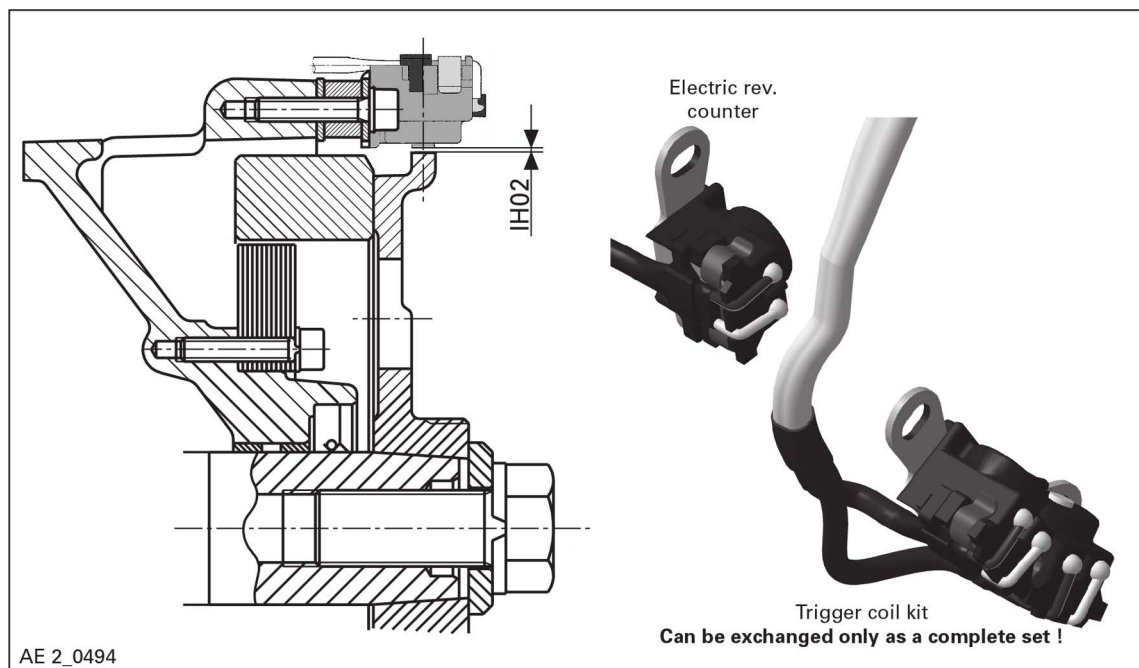
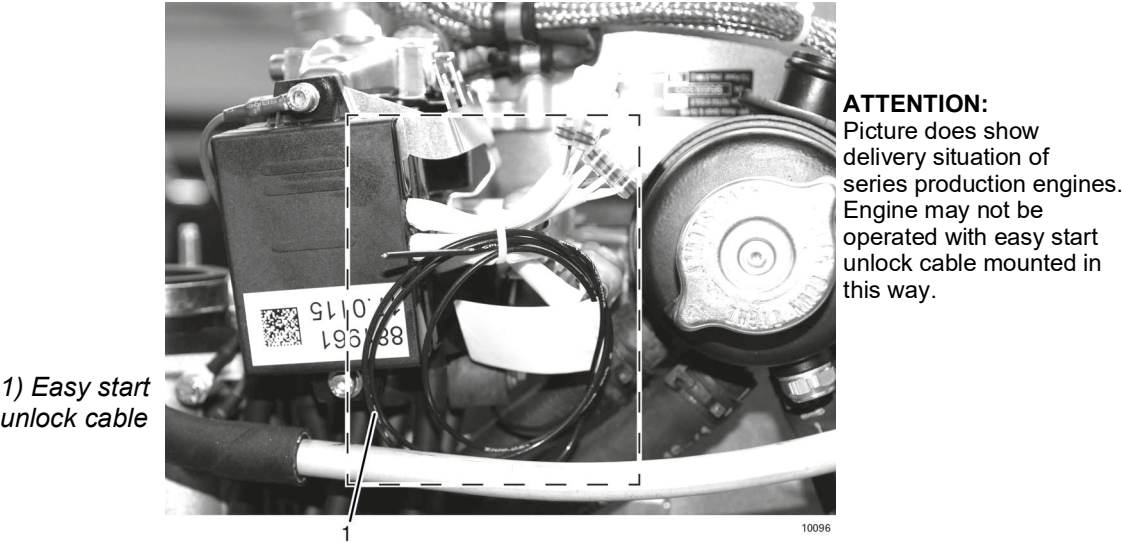
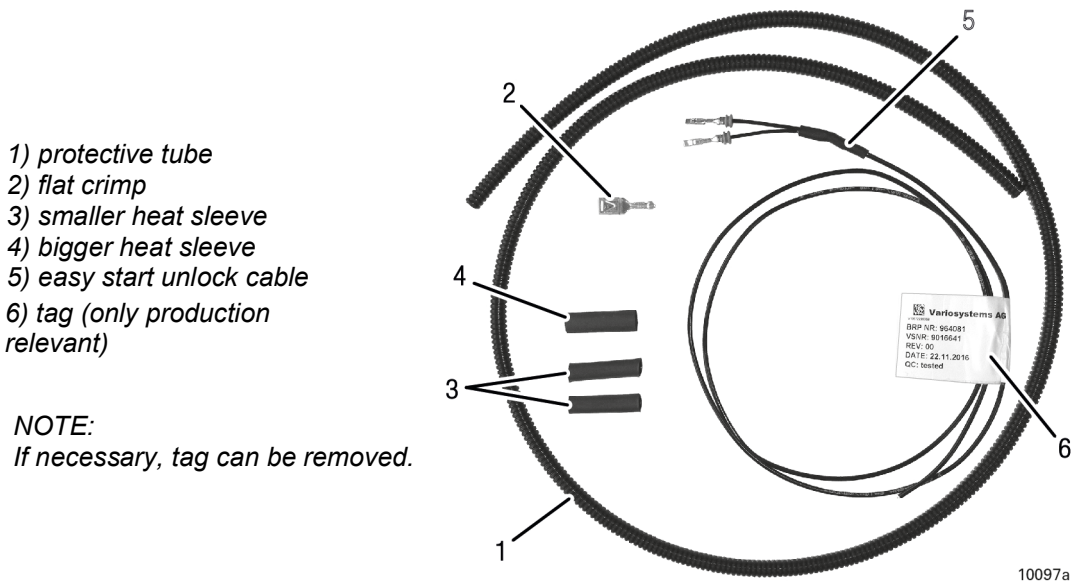
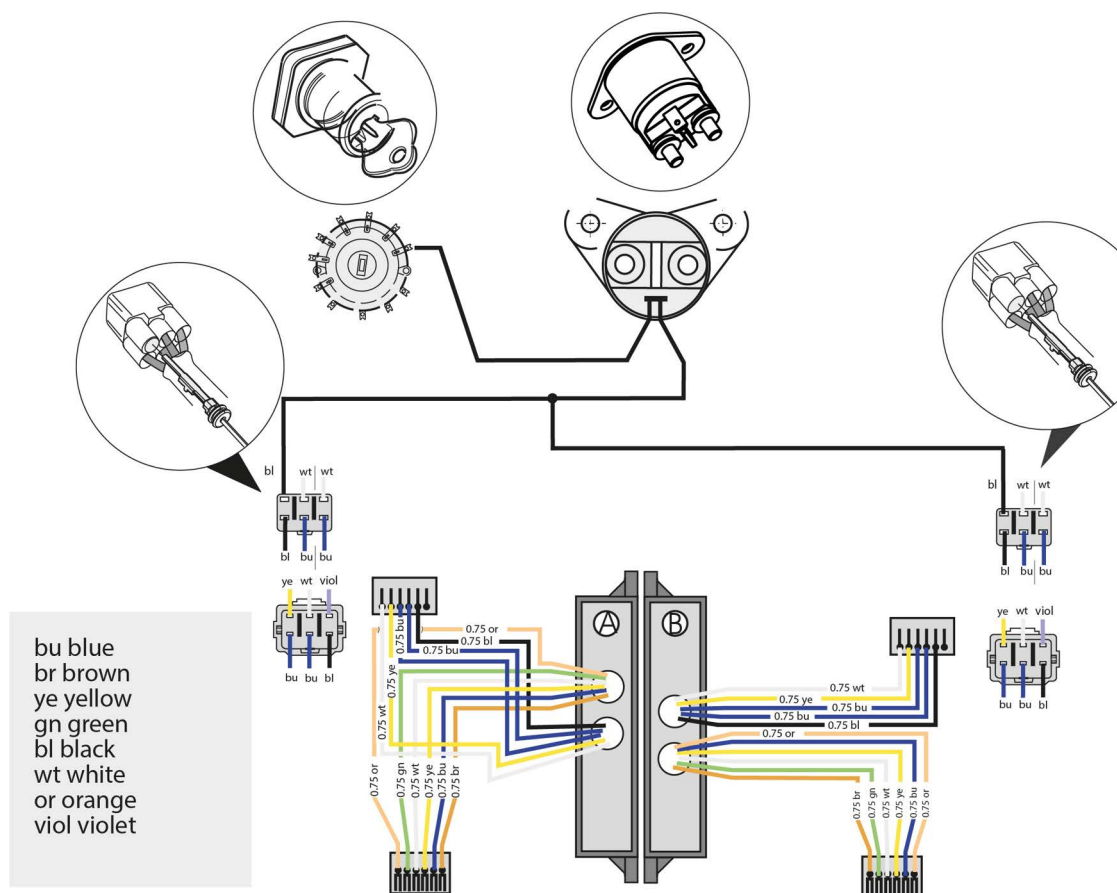

Fig. 1
Fig. 2
Fig. 3
Fig. 4
See Fig. 1 to Fig. 5
The single wire of this harness (see fig. 1) must be connected to the momentary 12V start power signal at the starter solenoid (see fig. 3 and 4). For this purpose the engines listed in Category A are also supplied with a bag consisting of one protective tube NW 4.5 (1000 mm / 3.28 ft.) (1), 1 flat crimp (2), 2 smaller heat sleeves (3) and 1 bigger heat sleeve (4), see fig. 2.
**NOTE:** If the ASM feature is not desired, or the aircraft is not suitable for this feature, the "Easy Start Unlock" part no. 964090 / 964081 cable assy. can be removed from the 6-pin connector (see fig. 3). The empty pin terminals must have dummy plugs part no. 260135 installed to prevent corrosion!
Easy start unlock cable assy. part no. 964090 / 964081 is provided as a spare part with engines listed in Category C and must be connected to both of the ignition modules and to momentary 12 V start power signal at the starter solenoid (see fig. 3 and fig. 4), to ensure full functionality of the advanced start system. For this purpose within the set of the easy start unlock cable assy. a bag consisting of one protective tube NW 4.5 (1000 mm / 3.28 ft.) (1), 1 flat crimp (2), 2 smaller heat sleeves (3) and 1 bigger heat sleeve (4) is also supplied, see fig. 2.
Remove the rubber dummy plugs from the male 6-pin connectors (violet wires) on each ignition module (see fig. 3). Insert the easy start unlock cable pin terminals (with grommets) to the now empty terminal of each ignition module (see fig. 3).
The single wire of this harness (see fig. 1) must be connected to the momentary 12 V start power signal at the starter solenoid (see fig. 3 and fig. 4). Also use the protective tube NW 4.5 (1000 mm / 3.28 ft.) (1), 1 flat crimp (2), 2 smaller heat sleeves (3) and 1 bigger heat sleeve (4) see fig. 2 according to the instructions supplied by your aircraft manufacturer and the relevant acceptable methods, techniques and practices AC 43.13-1.
With the advance start modules correctly installed and the actuation wire correctly connected to the momentary start switch side of the starter solenoid (see fig. 3 and fig. 4), normal starting activity should be as follows: